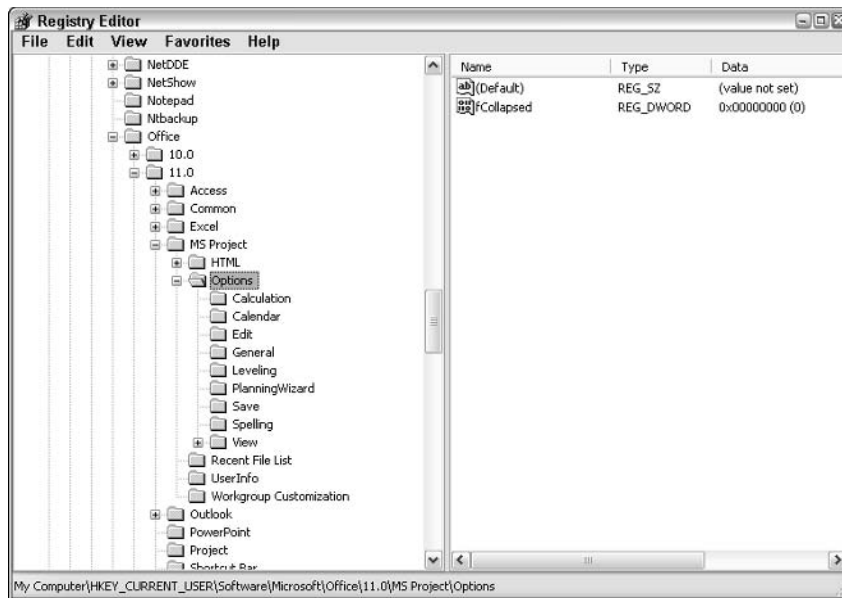

Figure 16-2: Click plus signs to open the folders to display this key.
3. Click plus signs (+) in the left pane of the window to navigate to the following key, which is shown in Figure 16-2:
4. Click the `Options` folder so that it is selected (refer to Figure 16-2).